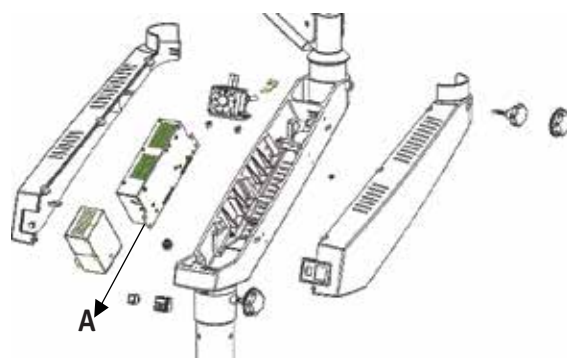

Fig. 12
- Remove the swivel arm covers by unscrewing the screws in top and bottom as shown in Fig. 12.
- Remove the connections on the power supply and replace the illumination assembly (A) in Fig. 12 with a new assembly and refix the connections.